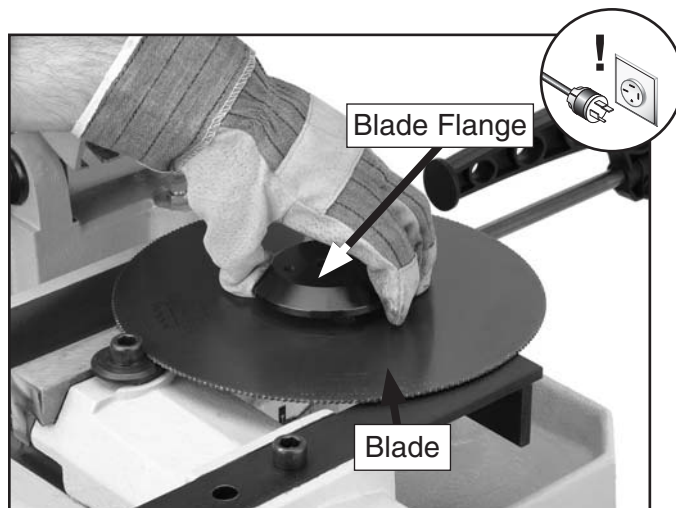

Figure 44. Installing new blade.
6. Place the blade flange on the new blade, as shown in **Figure 44**.